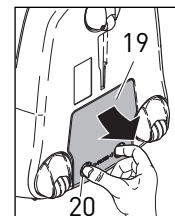
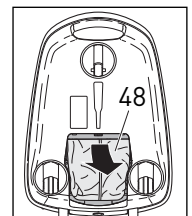
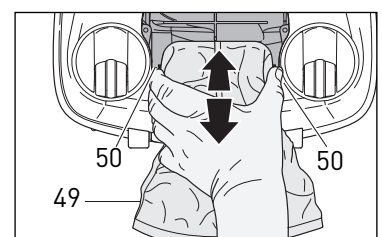

Figure 24
Figure 25
Figure 26
## Changing the Exhaust Microfilter - Figures 24, 25 & 26
After 10 to 20 bags have been used, change the exhaust microfilter (49). To remove the exhaust microfilter, press the filter cover release buttons together (20, figure 24) and pull the filter cover (19) off. Pull the material part of the filter out of the machine (49, figure 25). Press the red latches (50, figure 26) located on either side of the filter inward and pull the filter out. Insert the opening of the new filter over the exhaust opening with the red alignment tab at the bottom. When it is aligned, push down until the red latches (50) click shut to hold the filter in place. Tuck the material part of the filter inside the opening. Insert the cover by fitting the tabs on the top side of the cover into the grooves. Push the cover closed, making sure it snaps shut completely.